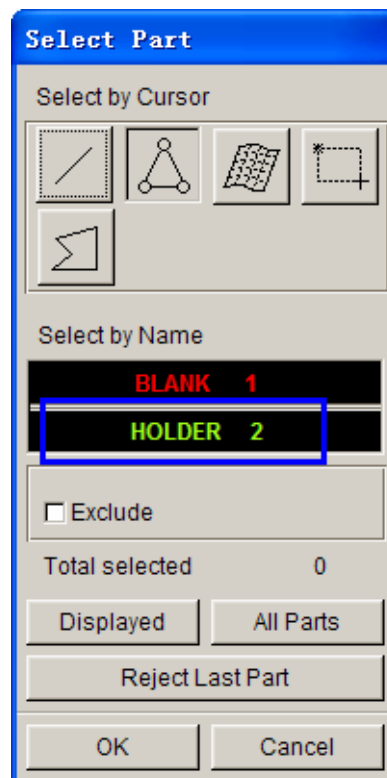

Figure 3.24: Select Part dialogue box
- 12) In the pop-up Select Part dialogue window, select the HOLDER part, then it is correspond to the blank holder tool, as shown in the following figure 3.24.